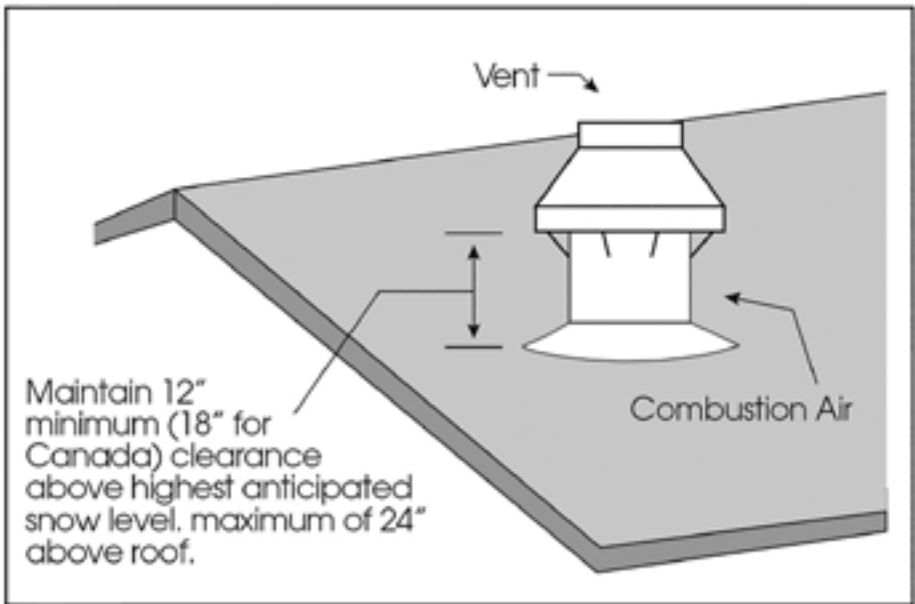

Figure 2: Typical Roof Installation
- Termination height must be above roof surface or anticipated snow level (minimum 12" in U.S. or minimum 18" in Canada) as shown in Figures 2 & 3).